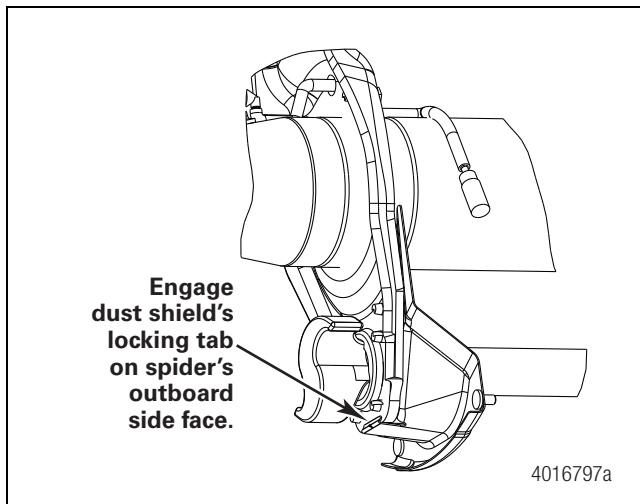

Figure 3
4. Ensure the lower dust shield locking tab gets positioned over the spider outboard surface. Figure 3.